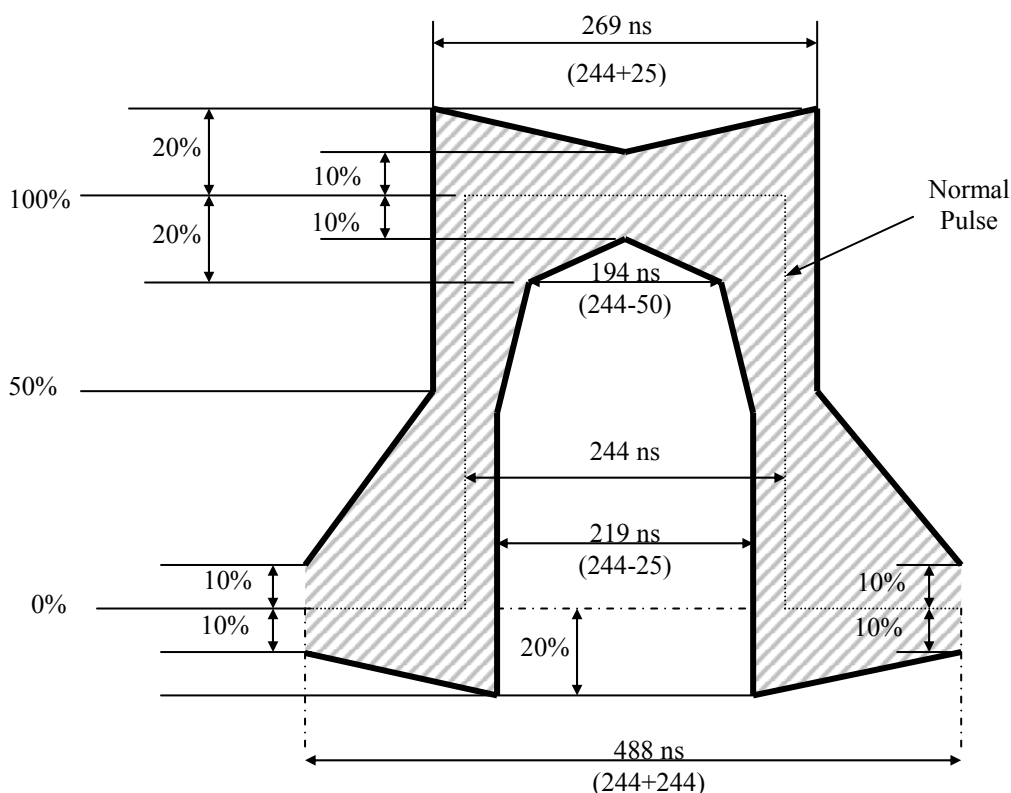

Fig. 6 Mask of the pulse at the E1 interface
- (1) Bit Rate: 2.048Mb/s±50ppm.
- (2) Line code: HDB3.
- (3) Pulse Shape: ITU-T G.703 shown as Fig. 6
- (4) Impedance: 120 Ω ± 5%, symmetrical pair
- (5) Nominal pulse width: 244ns
- (6) Ratio of the amplitudes of positive and negative pulse at the center of the pulse interval: 0.95 to 1.05
- (7) Ratio of the width of positive and negative pulses at the nominal half amplitude: 0.95 to 1.05
- (8) The allowable attenuation range of an E1 input signal: 0 ~ 12 dB @1024KHz, i.e. E1 copper (0.65mm) can transmit up to 400 meters.
- (9) E1 jitter characteristics: G.742 and G.823.
- (10) Minimum return loss for E1 input: